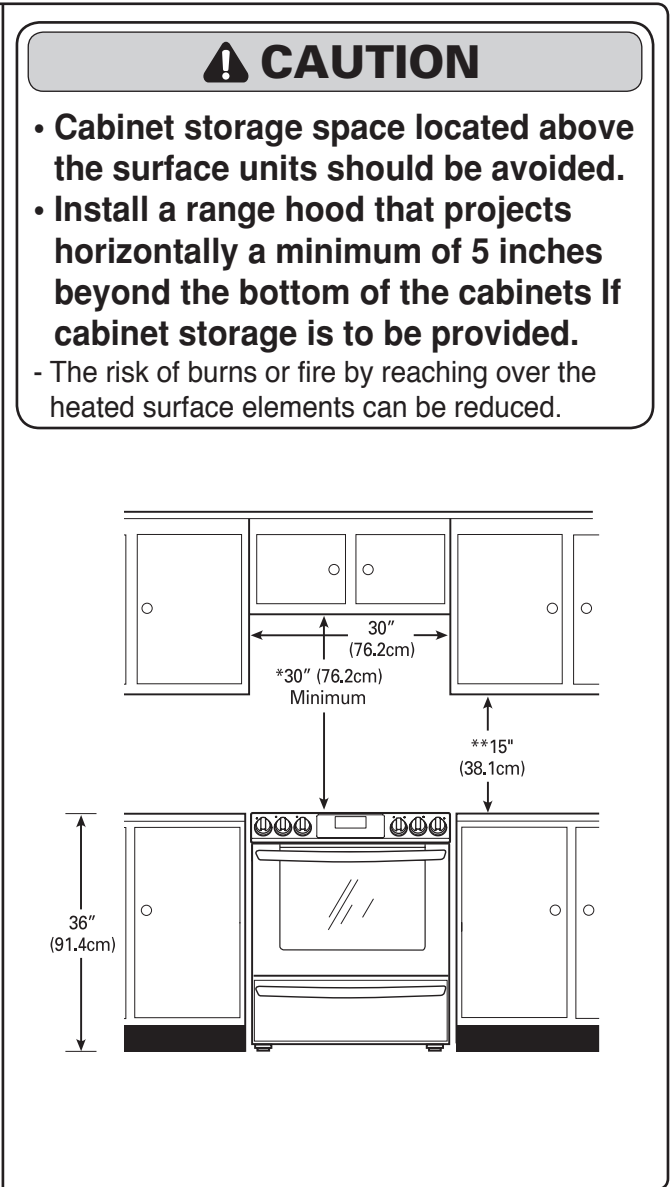

FIGURE 2
### MINIMUM DIMENSIONS (Figure 2)
**MINIMUM DIMENSIONS (Figure 2)**